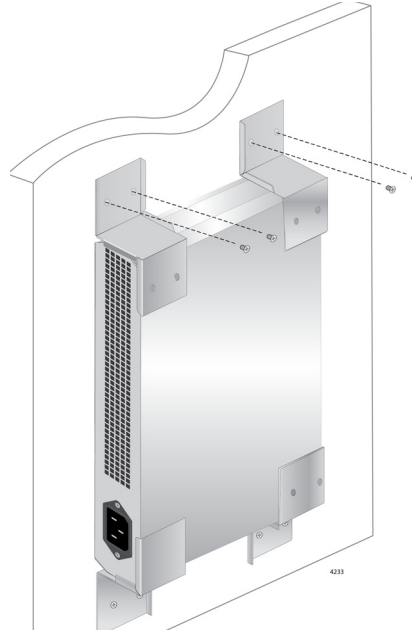

Figure 51. Driving the Screws through the Holes
14. Install the screws through the bracket holes to attach them to the wall. See Figure 51 on page 93.